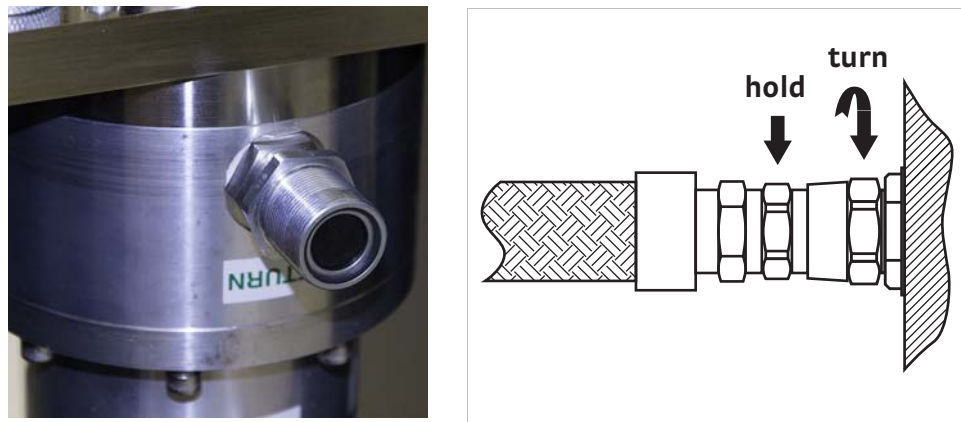

FIGURE 3-12 Left: Gasket on the cold head supply line;
3. Check that the flat rubber gaskets are clean and in place on each supply/return connection on the compressor and cold head (FIGURE 3-12).
- b. Using the two wrenches provided in the CCR tool set, tighten the self-sealing nut. Hold the nut with one wrench and turn with the other as shown in FIGURE 3-12. Do not over tighten; the maximum allowable torque is 50 Nm.